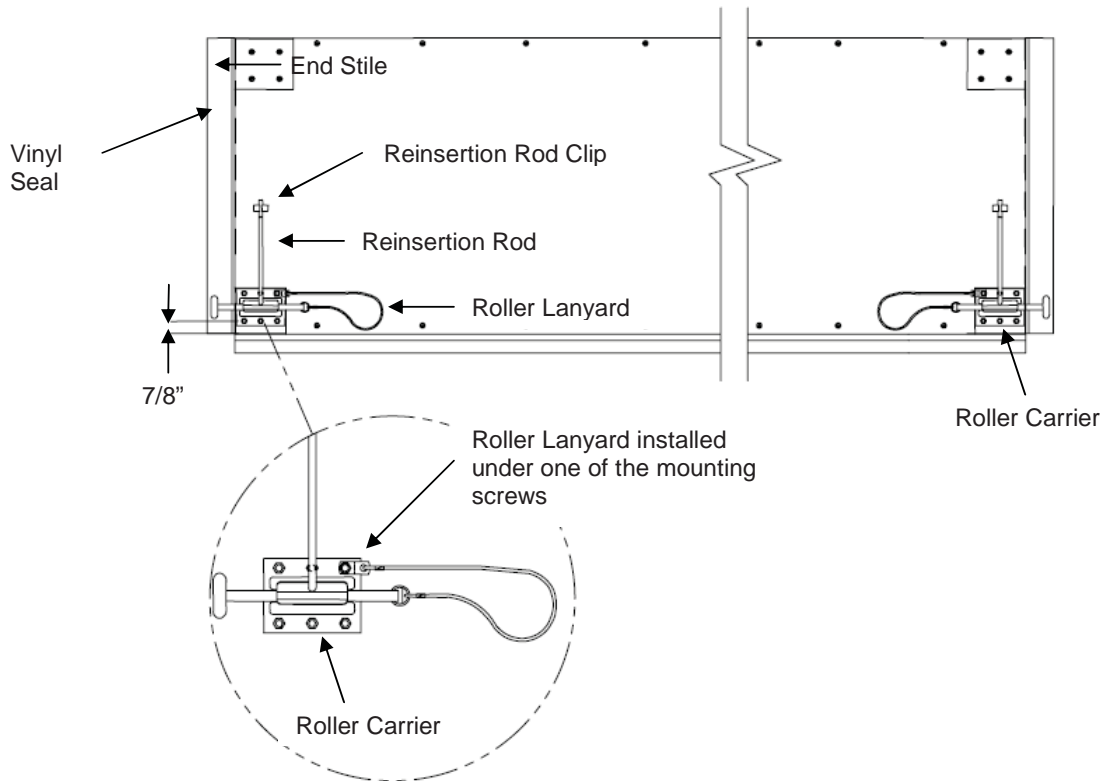
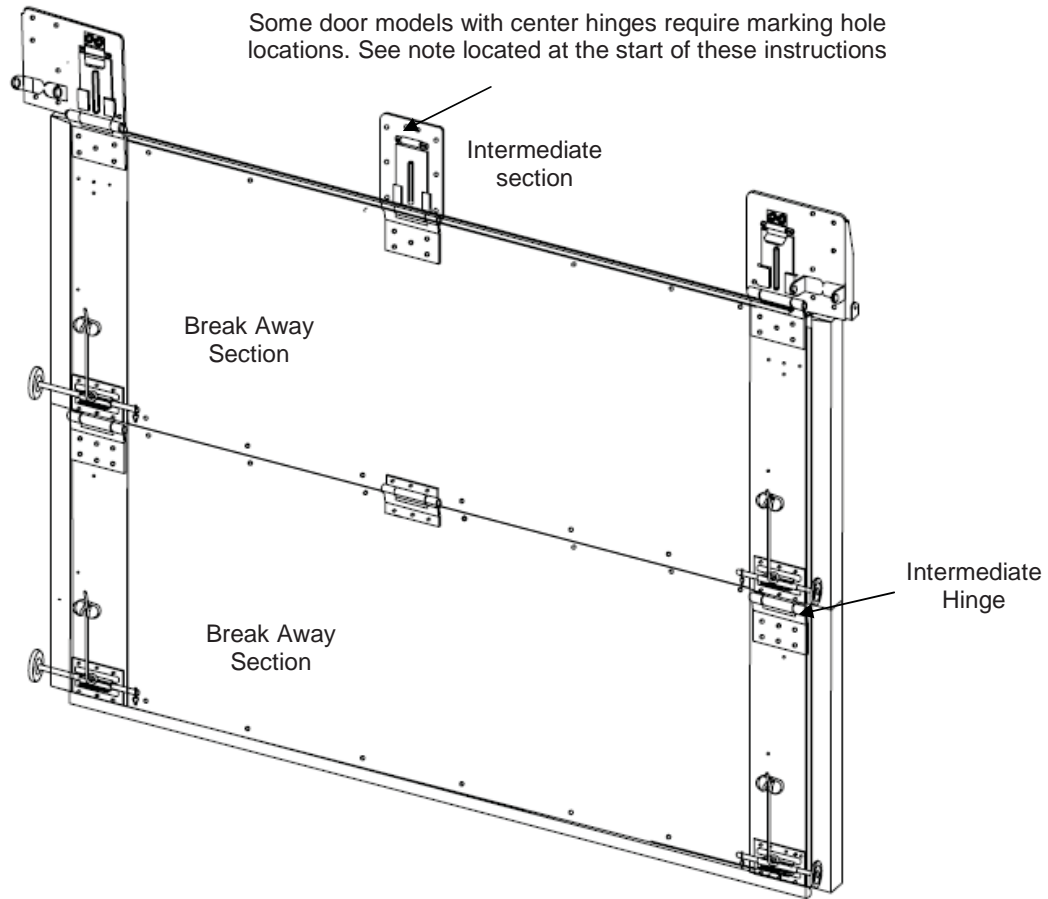
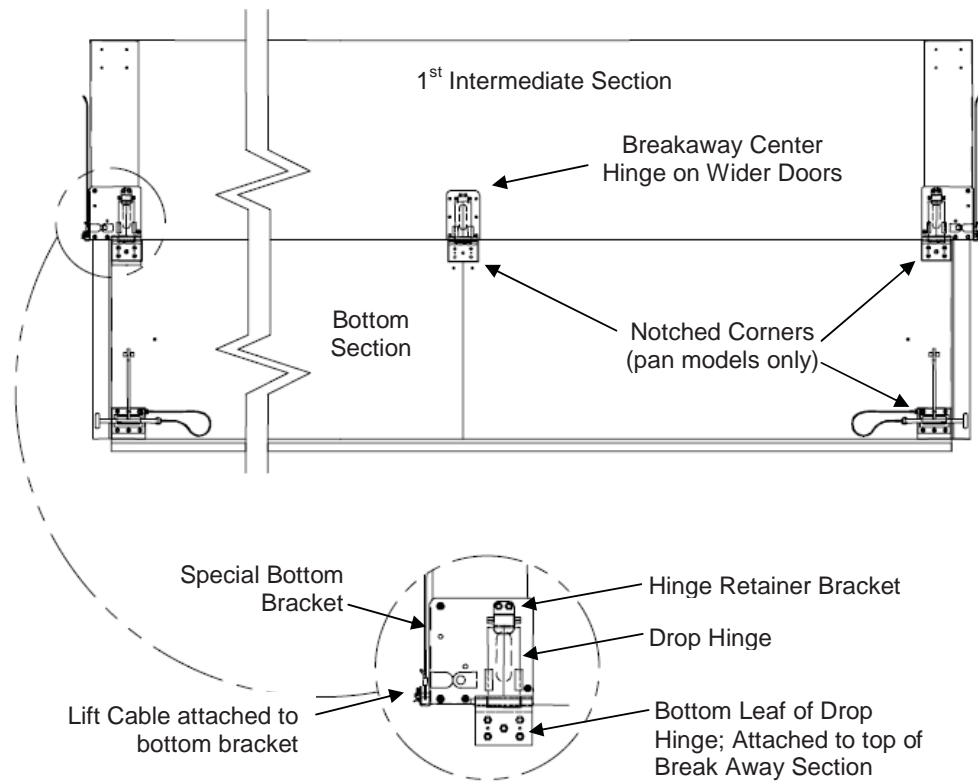

FIGURE 1
FIGURE 2
FIGURE 3
Insulated door models use protective plastic sheets that cover the location of center hinges. If your door is supplied with center hinges as shown (Fig. 2 or Fig. 3) and there is no cut out for the hinge location use the following method to mount center hinges:
Place an intermediate section on a saw horse that will be used to mount the cable assemblies. (Fig. 2 or Fig. 3 marked intermediate section). Mount the center hinge or hinges at locations punched with center holes at the bottom of the section. Place the mating top of each break away section against this intermediate section and use the bottom leaf of the mounted center hinge as a template for locating the mounting holes on the break-away section. Once these holes are located, mark the holes so the appropriate hinge can be mounted later during the installation process.
**Step 1: Bottom Roller Carriers.** Install the roller carriers onto the bottom section of the door using (6)  $\frac{1}{4}$ " x  $\frac{3}{4}$ " [6 mm x 19 mm] long self-drilling screw through each bracket (with double bottom break-away sections, the bottom section may be identified as the one with the astragal and astragal retainer). The reinsertion rod should be positioned at the top of the roller bracket, as shown. (Fig 1) The mounting holes for the bracket are pre-punched in the end stiles. The first row of mounting holes is located  $\frac{7}{8}$ " [22 mm] up from the bottom of the end stiles. Make sure to attach the end of the roller lanyard by securing it under one of the mounting screws, as shown. (Fig 1)
**Step 2: Reinsertion Rod Clips.** Using the small self-drilling screws supplied with the brackets, install the reinsertion rod clips to the end stiles, as shown. (Fig 1)
**Step 5: Multiple Break-Away Sections.** *(Skip Step 5 if you are installing a single breakaway section.)* With the bottom breakaway section mounted in the opening, install the second break away section, as shown. (Fig 2) Mount the intermediate hinge, as shown, with (12) ¼" x ¾"[6 mm x 19 mm] self-drilling screws. Repeat lanyard and reinsertion rod installation for the two intermediate hinges, as shown. (Fig 1)
- **Use the red headed self-drilling screws supplied to install the bottom brackets. Each bracket is to have (4) self-drilling screws, positioned as shown. (Fig 3)**
**Step 7: Drop hinge.** Install the bottom leaf of the drop hinge to the top of the section using (5) ¼" x ¾" [6 mm x 19 mm] long self-drilling screws through each bracket